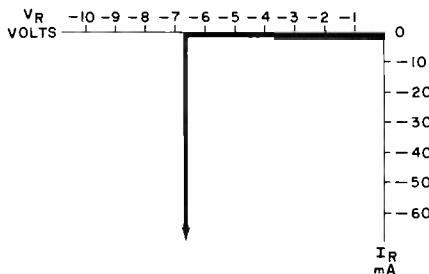

Fig. 1. V-I curve of an ideal 6.7-volt zener diode.
**A**S NEARLY every electronics hobbyist knows, the zener diode is an extremely useful component. Nearly all regulated power supplies, including those using IC voltage regulators, are built around one or more zener diodes. (Most IC regulators have internal zener diodes.) The voltage-versus-current curve for an ideal 6.7-volt zener diode is shown in Fig. 1. The rather unusual appearance of this graph is due to the fact that a zener diode is usually reverse biased. By convention, both the voltage across and the current through the diode are negative.